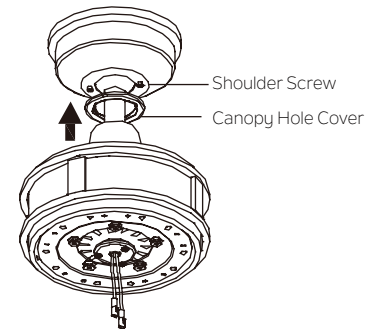

Fig. 18
Step 2. Securely attach and tighten the canopy hole cover over the shoulder screws in the mounting bracket utilizing the keyslot twist-lock feature. (Fig. 18)